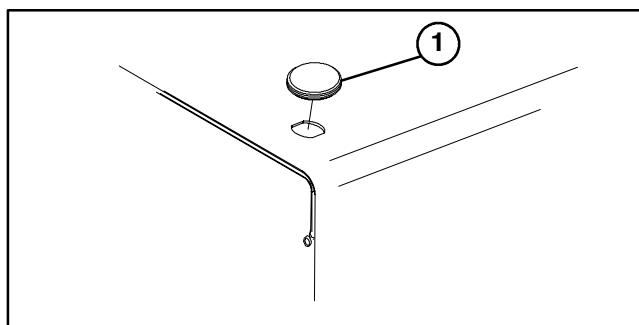

Figure 2
## MOUNT HOOD LATCH (Fig. 2 & 3)
1. Remove plug from hole in left front corner of hood (Fig. 2).